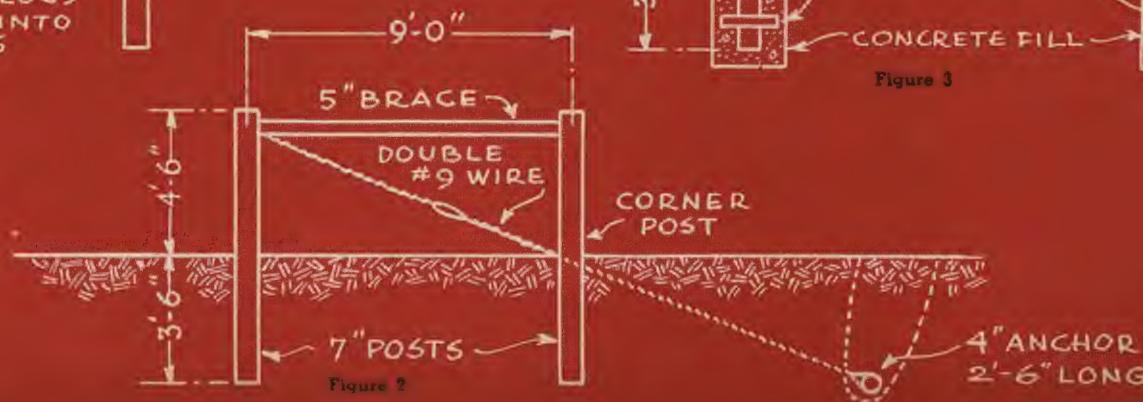

Figure 2
6. The illustration (Fig. 2) shows method of bracing corner posts. About ten feet is considered the maximum length for brace posts. Longer posts buckle more easily under stress and shorter ones are apt to pull corner posts out of the ground. Braces should be at least 4" x 4" if made of wood. Diagonal corner braces should be about 10 inches from tops of corner posts and the same distance from the